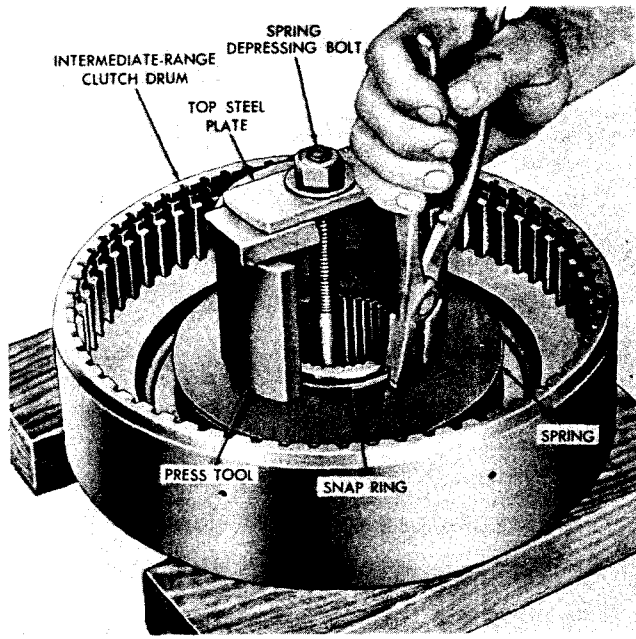

Fig. 6-20. Removing (or installing) return spring snap ring
(1) Remove two hook-type seal rings 1, from the hub of clutch drum 2.
(2) Improvise a puller (or use a press) which will depress the piston return spring 6. Remove snap ring 7 which retains the spring (fig. 6-20).
(3) Install the piston return spring, concave (cupped) side first, onto the piston (fig. 6-20).
(4) Improvise a puller (or use a press) to depress the clutch spring. Install the snap ring (fig. 6-20).
(5) Install two hook-type seal rings 1 (B, foldout 10) into the grooves on the front hub of clutch drum 2.